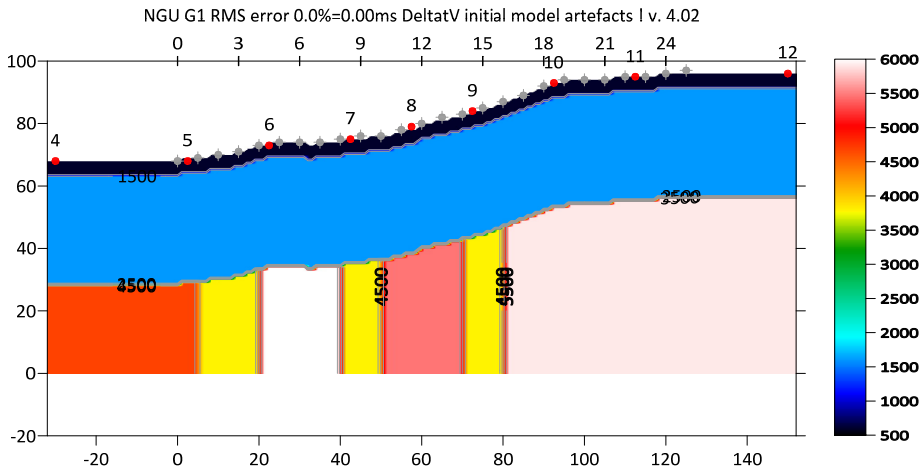

Fig. 7 : select *Grid*|*Image and contour velocity and coverage grids* & C:\RAY32\NGU_G1\INPUT\G1_SYNTHETIC.GRD
- select *Grid*|*Image and contour velocity* & C:\RAY32\NGU_G1\INPUT\G1_SYNTHETIC.GRD to obtain Fig. 7